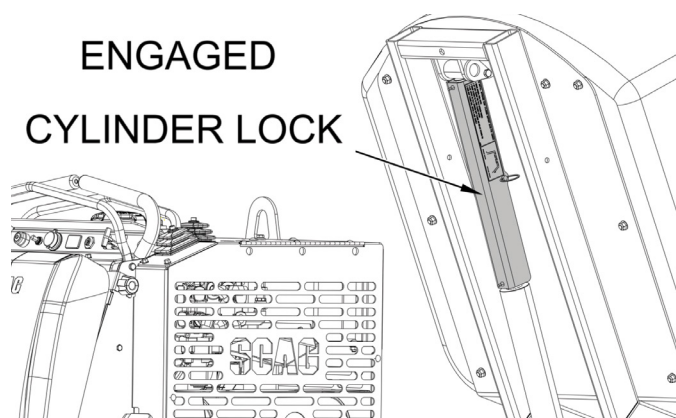

Figure 2-1. Engaged Cylinder Lock
10. When performing service that requires the hopper to be raised, ensure the cylinder lock is engaged and secure. See Figure 2-1 and Section 6.3.